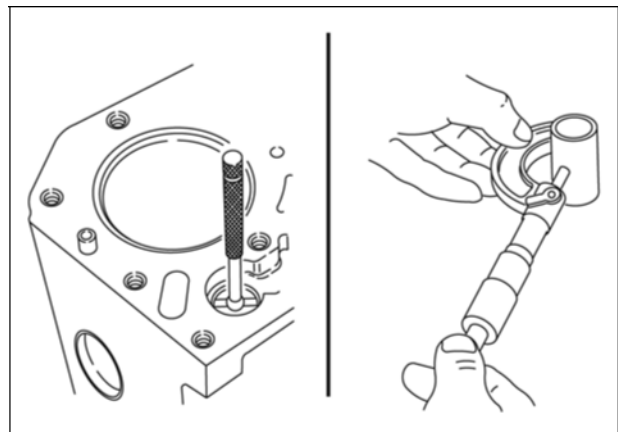

Figure 4
3. Check valve lifter bore (Figure 4).
4. Check valve lifter (Figure 4).